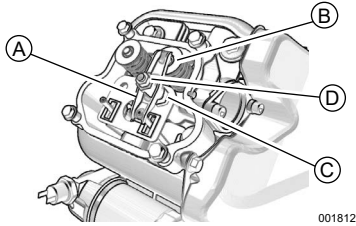
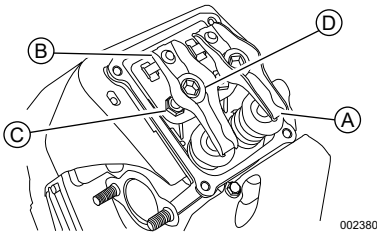

Figure 4-7. Valve Clearance Adjustment (10 kW)
Figure 4-8. Valve Clearance Adjustment (20–26 kW)
6. See Figure 4-7 or Figure 4-8. Verify valve clearance between each rocker arm (A) and valve stem (B) with a feeler gauge.
See Figure 4-7 or Figure 4-8. Proceed as follows to adjust valve clearance: